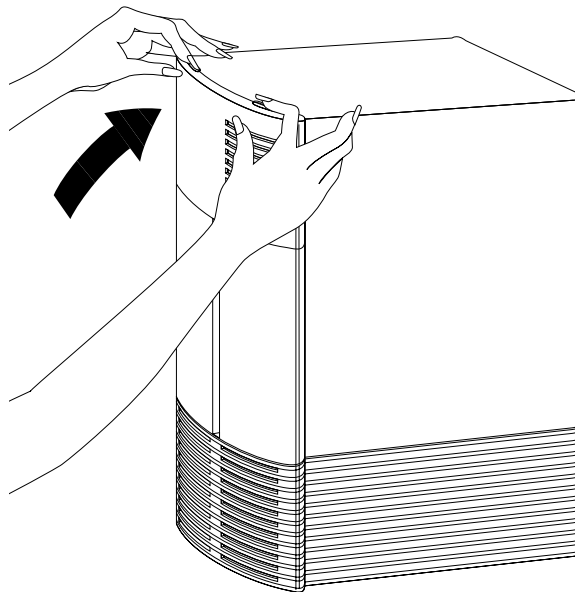

Figure 13 Replacing the Front Plastic Cover
6. Replace the front plastic cover (See Figure 13).
- Tilt the panel up to the Indigo chassis, as shown in Figure 13.